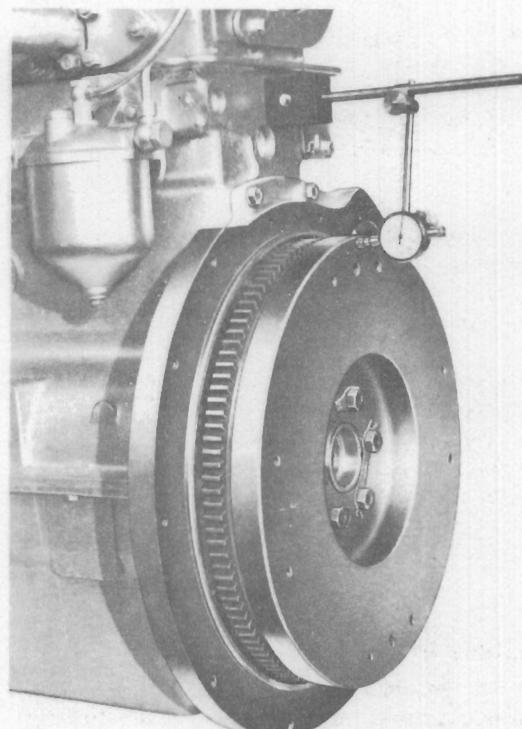

Fig. P.2.
6. With the base of the 'clock' gauge secured to the cylinder block, set the clock so that the plunger rests against the vertical machined face of the flywheel. See Fig. P.2.